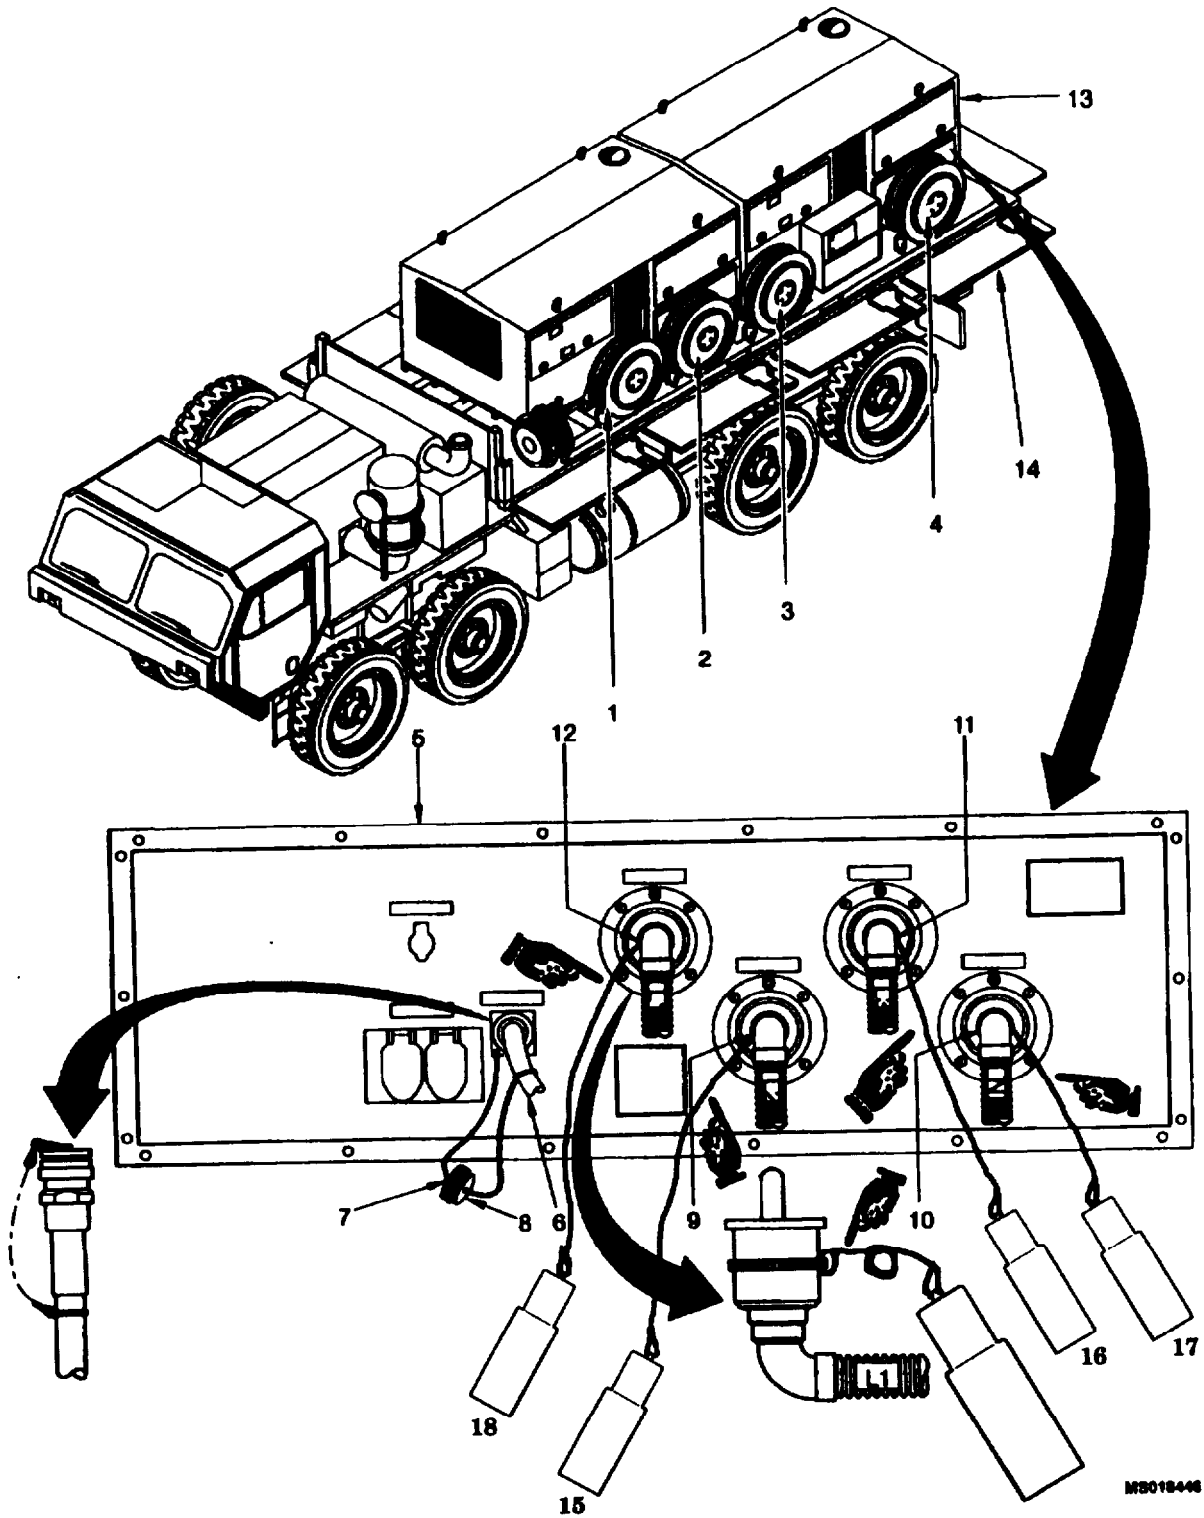

Figure 4-20 Generator Set 150 kW, Connection Panel.
- Swing truck side panels (14, figure 4-20) down to horizontal position for access.
- (1) Remove protective cap (8, Figure 4-20) from plug at end of control cable (6).
- (2) Remove protective cap (7) from J9 PARALLEL OPERATION socket.
- (3) Coat threads of control cable plug (6) and socket J9 with copper paste.
- (4) Insert plug of control cable (6) into J9 PARALLEL OPERATION socket, and tighten down.
- (5) Screw protective caps (7) and (8) together.